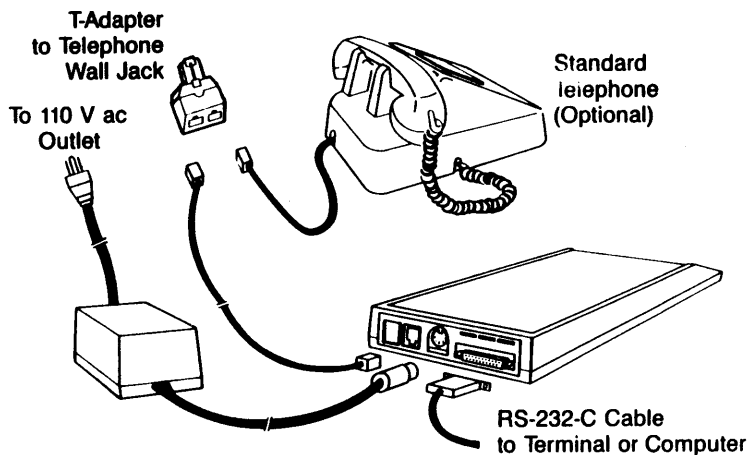

Figure 2-3. Canadian Installation
3. Canadian installations require a T-adapter as shown in Figure 2-3.